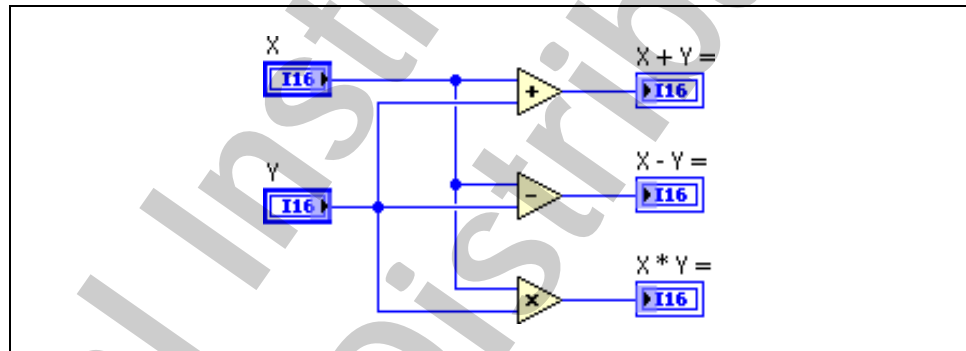

Figure 3-3. Simple Math.vi Block Diagram
5. Build the block diagram shown in Figure 3-3.
- ☐ Wire the block diagram as shown in Figure 3-3.